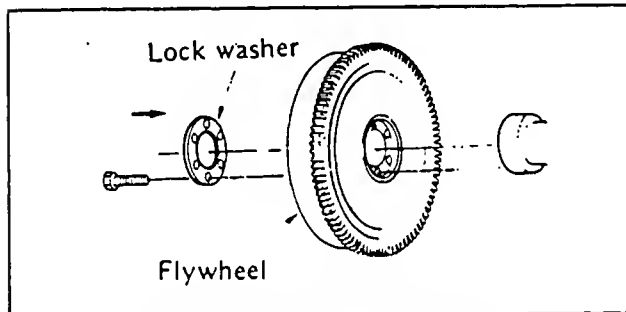

Figure 5. Flywheel Installation
6. Install the flywheel. Pay close attention to location of the alignment pin. Retain flywheel with bolts and lock ring. See Figure 5.